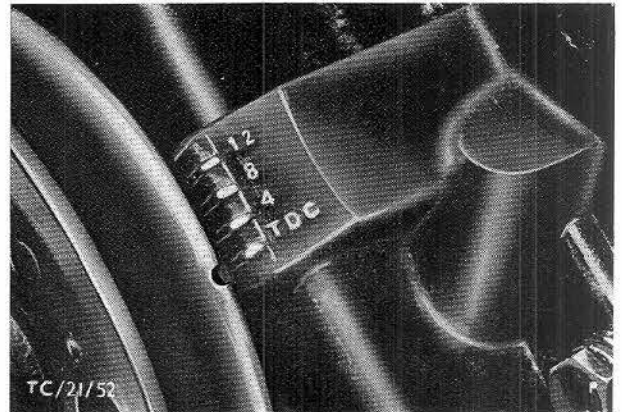

Fig. 82. Pulley on TDC mark.
2. During adjustment of valve clearances, crank engine only in direction of normal rotation. For first valve adjustment, align crankshaft pulley mark with 'O Mark' on timing cover, Fig. 82.